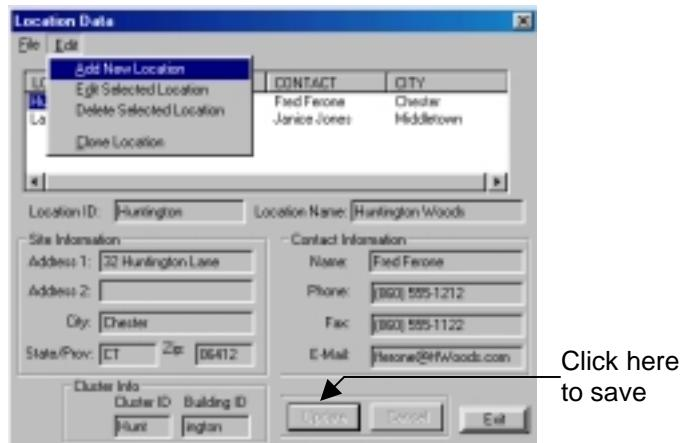

Figure 5.3 Adding Locations
2. Select Add New Locations from the Edit drop-down menu (Figure 5.3).
4. Verify that the data you have entered is accurate and click the Update button to save (Figure 5.3).